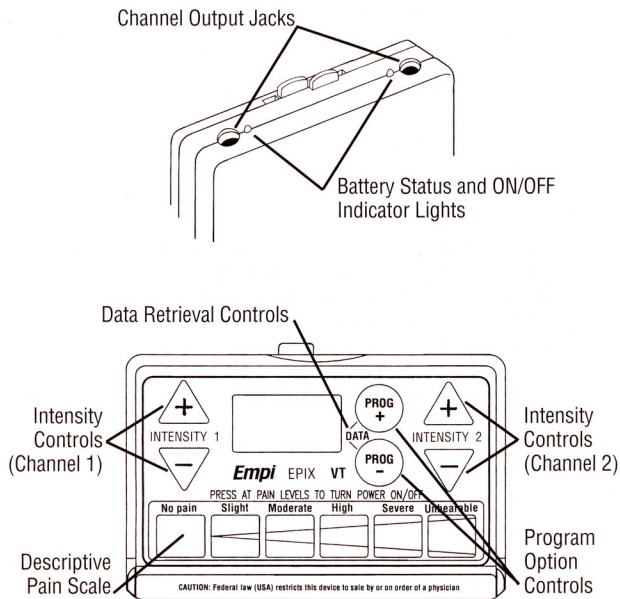

Figure 1.
Become familiar with the location of the features of the Epix VT TENS device before initiating treatment. Figure 1 outlines the Channel Output Jacks, the combined Battery Status and ON/OFF Indicator Lights, the Intensity Controls, the Program Option Controls, the Descriptive Pain Scale and the Data Retrieval Controls.
There are two Safety Jacks labeled “1” and “2” (Figure 1). These jacks allow lead wires to be connected to the TENS device. Channels 1 and 2 operate independently.
Epix VT amplitude is adjustable from 0-60 milliamperes. The intensity (amplitude and pulse duration) of the stimulation available through each of the lead wires attached to either or both of the channels is controlled by the push buttons on the control panel (see Figure 1). Depressing the up-arrow button increases the intensity of the stimulation. When increasing intensity, output will be delivered continuously. Decreasing the intensity level is done by depressing the down-arrow. Increasing or decreasing intensity adjusts amplitude and pulse duration simultaneously.
Epix VT offers twelve (12) program options. Selecting a specific program option is done by depressing one of the PROG buttons (Figure 1). The "PROG +" and "PROG -" buttons allow going forward or backward when selecting the program option. A description of the available program options is described in the Program Options section of this manual.